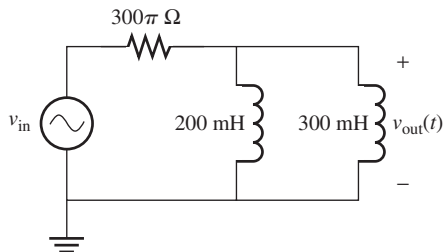

FIGURE P7.27 Filter for Problem 7.27.
7.27 (A) Find the output voltage of the circuit in Figure P7.27. Given that input voltage $v_{in} = 5 + 6 \cos(100\pi t + 30^\circ) + 4 \sin(3000\pi t + 25^\circ)$, what happens to the output voltage at low and high frequencies?